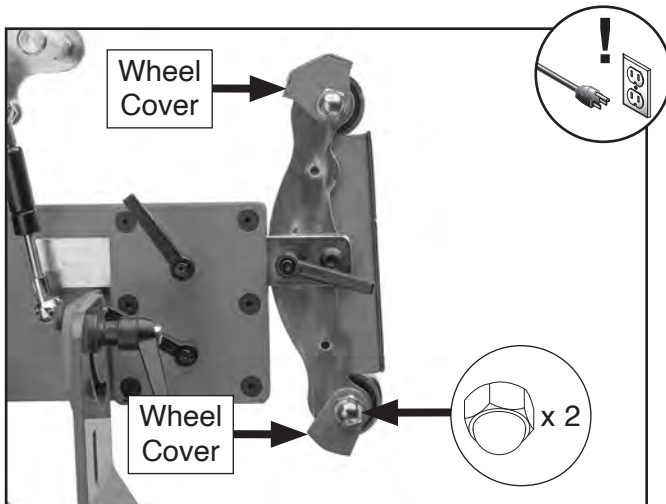

Figure 51. Wheel covers adjusted back and away from platen.
3. Loosen acorn nuts on front wheel covers shown in **Figure 51**, and adjust covers back so you can place straightedge against platen and wheels in following steps.